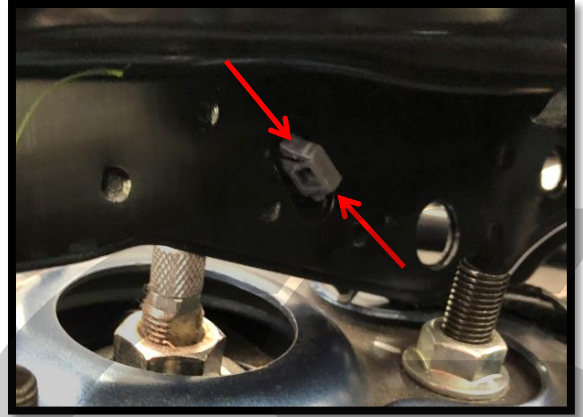

Figure 1n
- u) Unclip the wiring harnesses from cowl, there is one located on each end. Access the clips from the underside of the cowl and use pliers to squeeze the clips and free the wiring. Driver's side shown in **Figure 1n**.